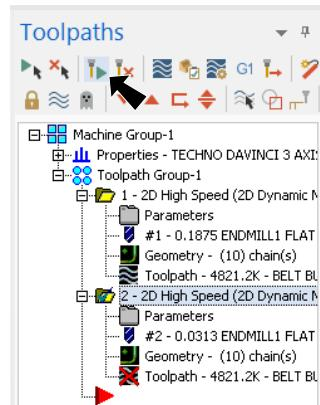

Fig. 56
Step 1. In the Toolpaths Manager, click **Regenerate all selected operations** , Fig. 56.